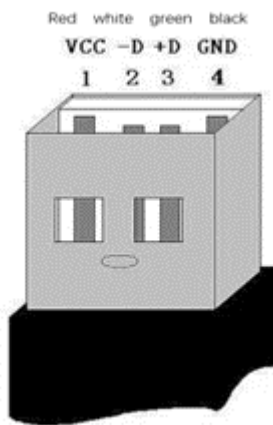

Figure 1-6 Defining USB ports
- H. External USB interface: (as shown in figure 1-6) serial port bus standard 2.0 interface for data connection; The USB port is used to copy program files and connect peripherals such as mouse and keyboard.